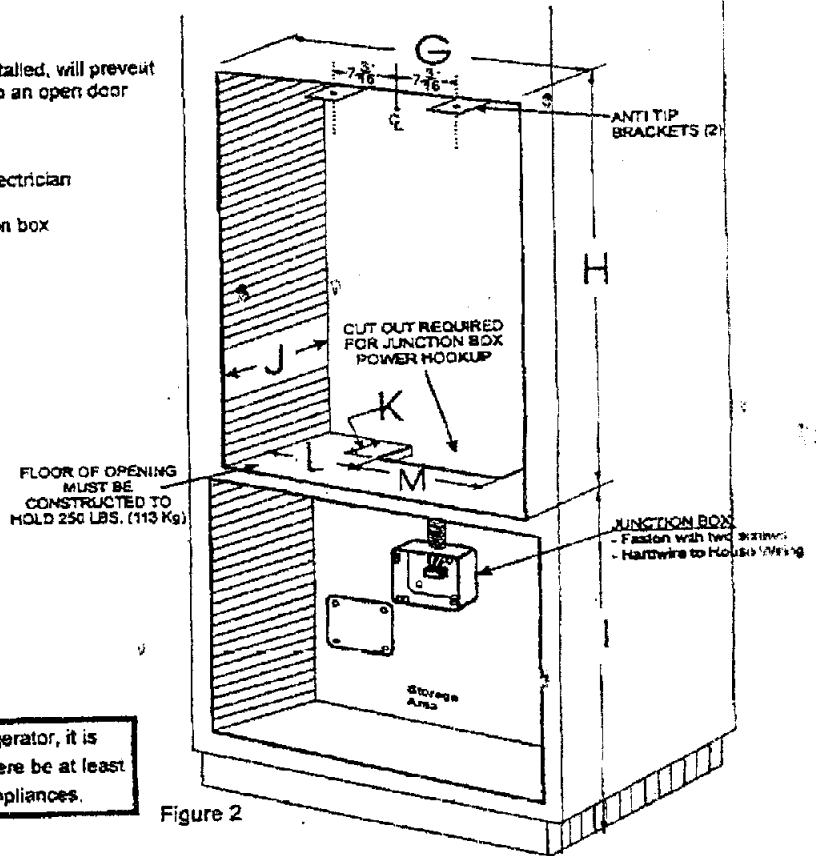

Figure 2
- Brackets included with every stove. When properly installed, will prevent stove from tipping forward if downward force is applied to an open door (Figure 2).
- Licenced Electrician to hardwire house wiring to junction box (supplied with stove, as show in Figure 2)